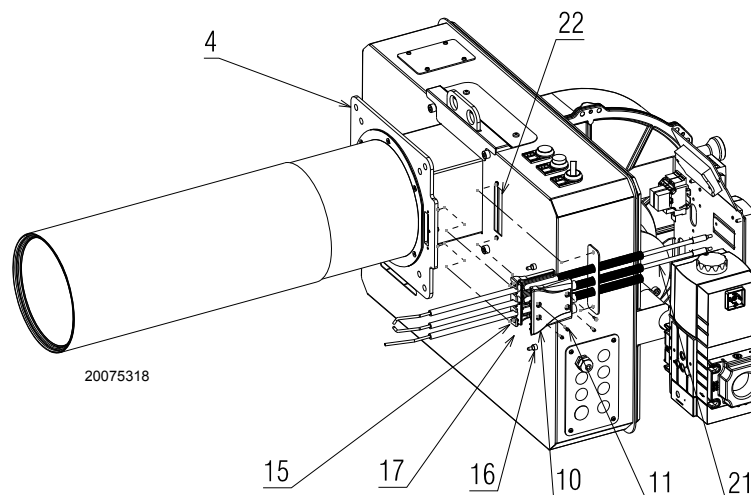

Fig. 19
- take the supplied probe-electrodes unit, unscrew the screws 11) and remove the cover 10)(Fig. 19).